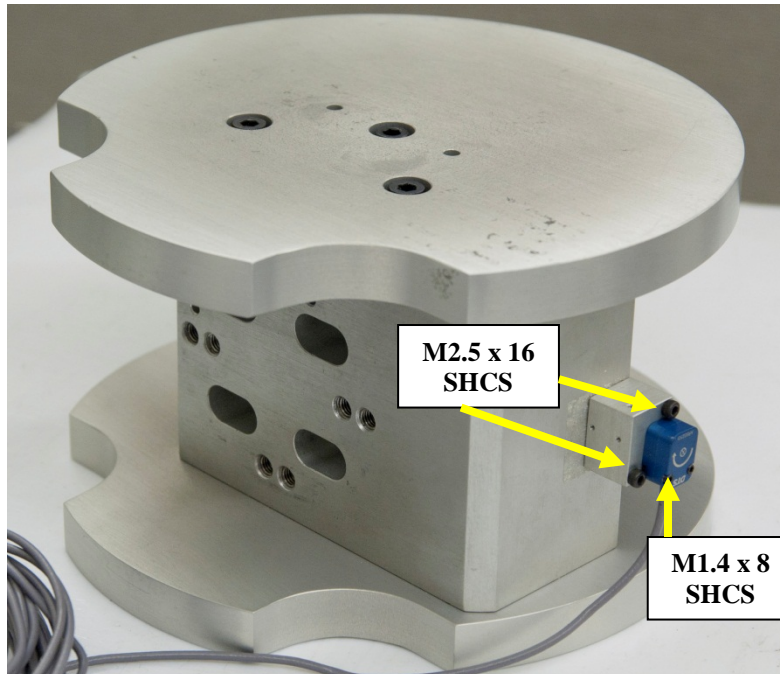
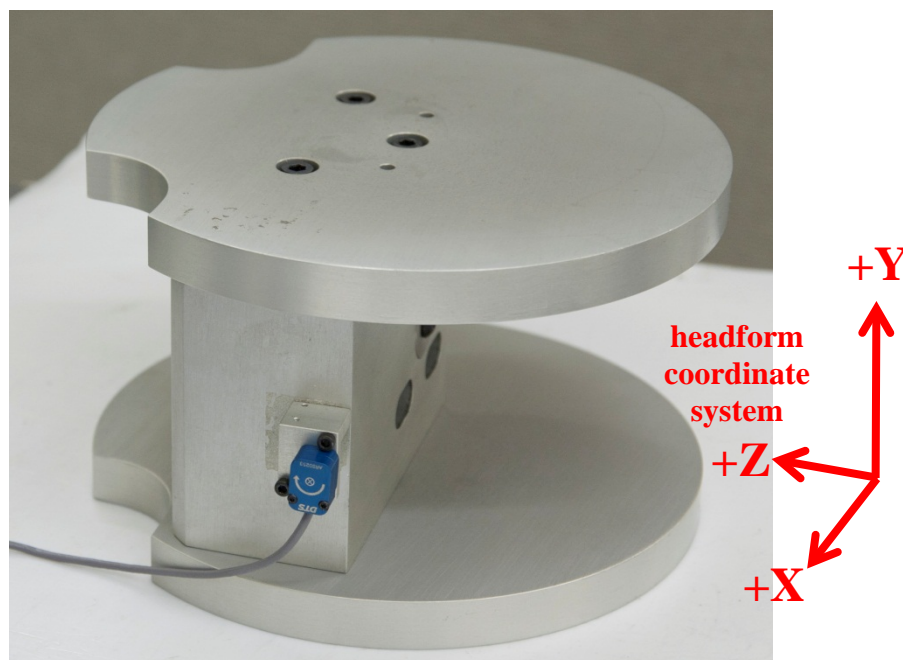

Figure 152. Install ARS to mount then to front of headform
Figure 153. ARS installed to headform for lumbar lateral tests
- Align and insert the alignment pin on the lumbar interface (Figure 152) to the back of the headform (Figure 153).